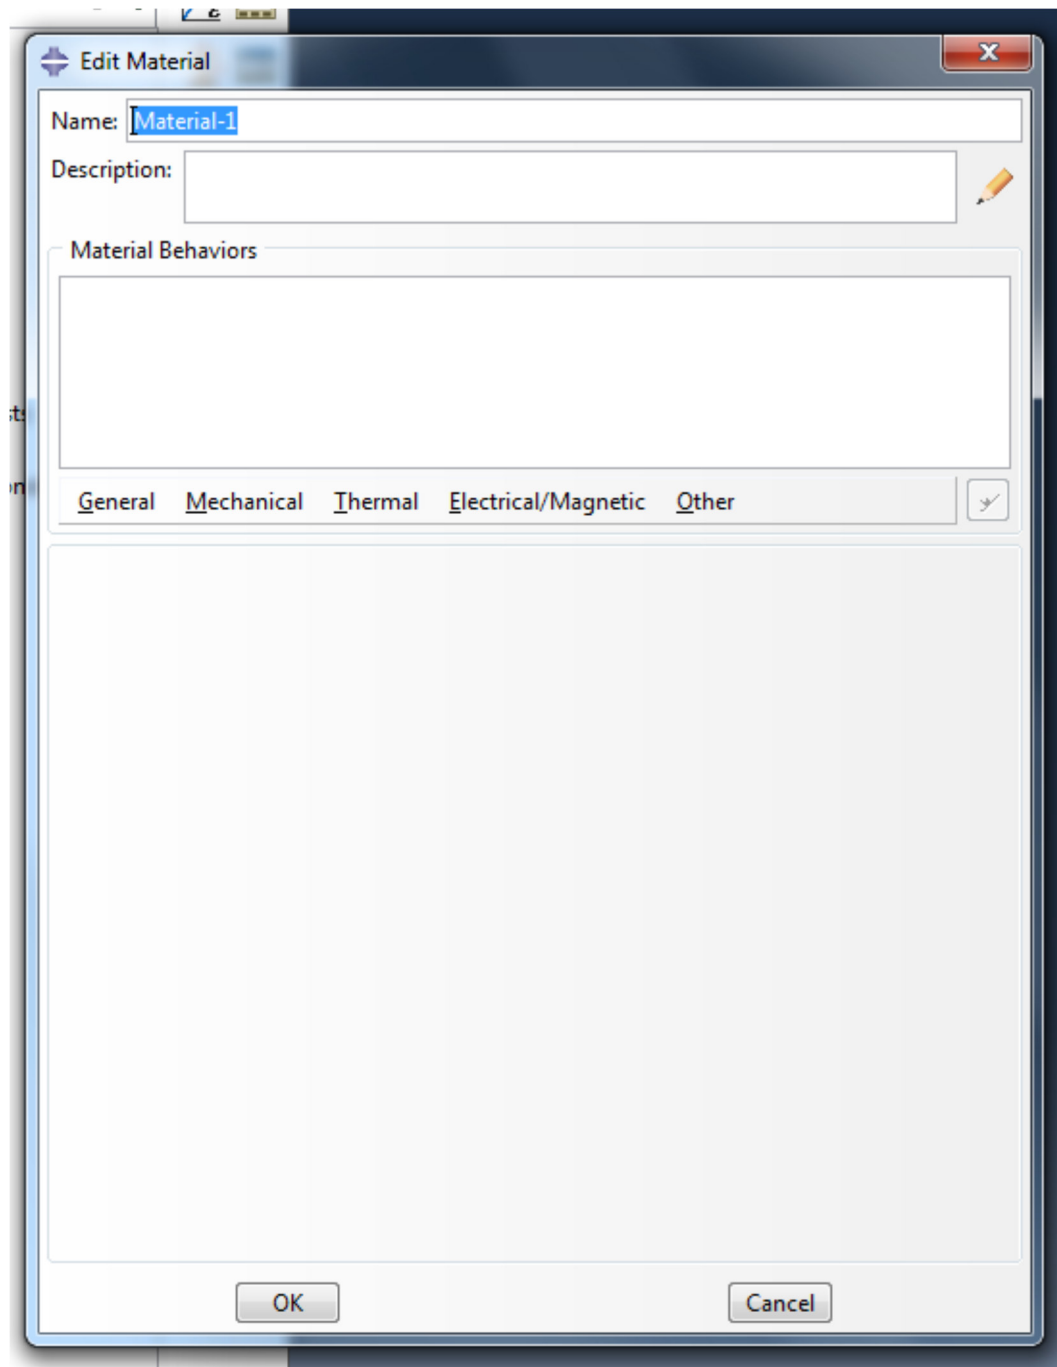

Figure 6.
- b) A new window will open for you to define your material, Figure 6.